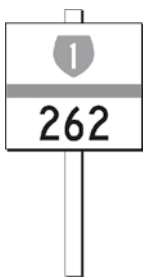

Figure 18. Reference station RS 262 is 262 km from the northern beginning of State Highway 1
Reference station (RS) (figure 18)